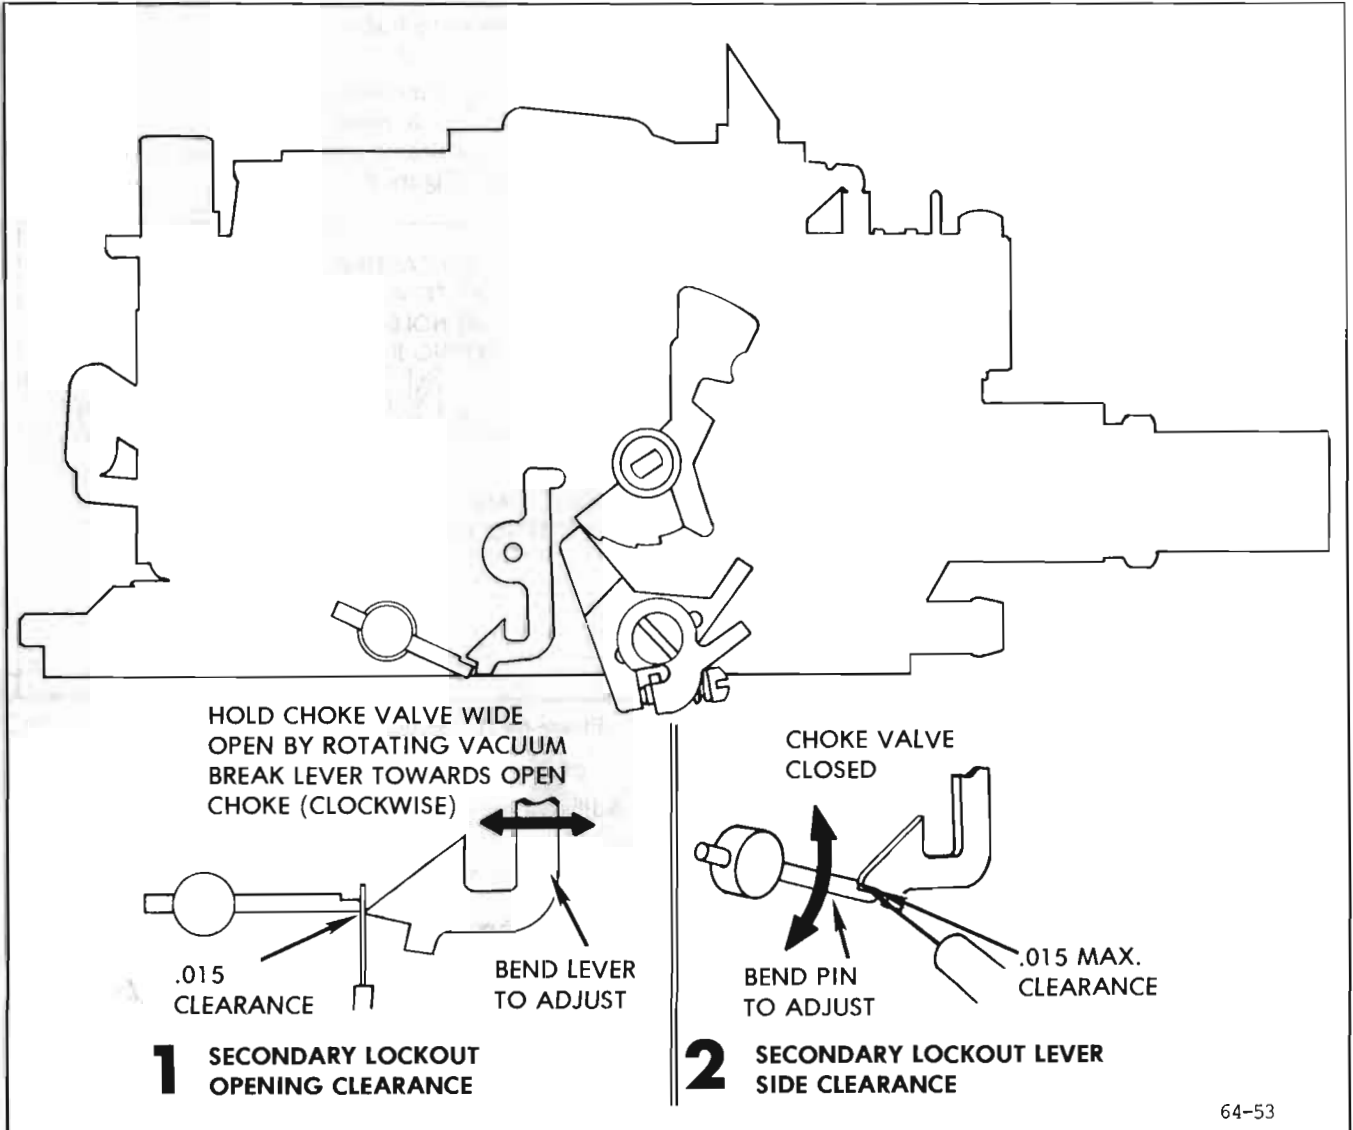

Figure 64-53 - Secondary Lockout Adjustment
2. *Secondary Lockout Pin Side Clearance* - With choke valve and secondary throttle valve fully closed, bend lockout pin at point shown to maintain specified side clearance between side of lockout pin and lockout lever. See Figure 64-53.